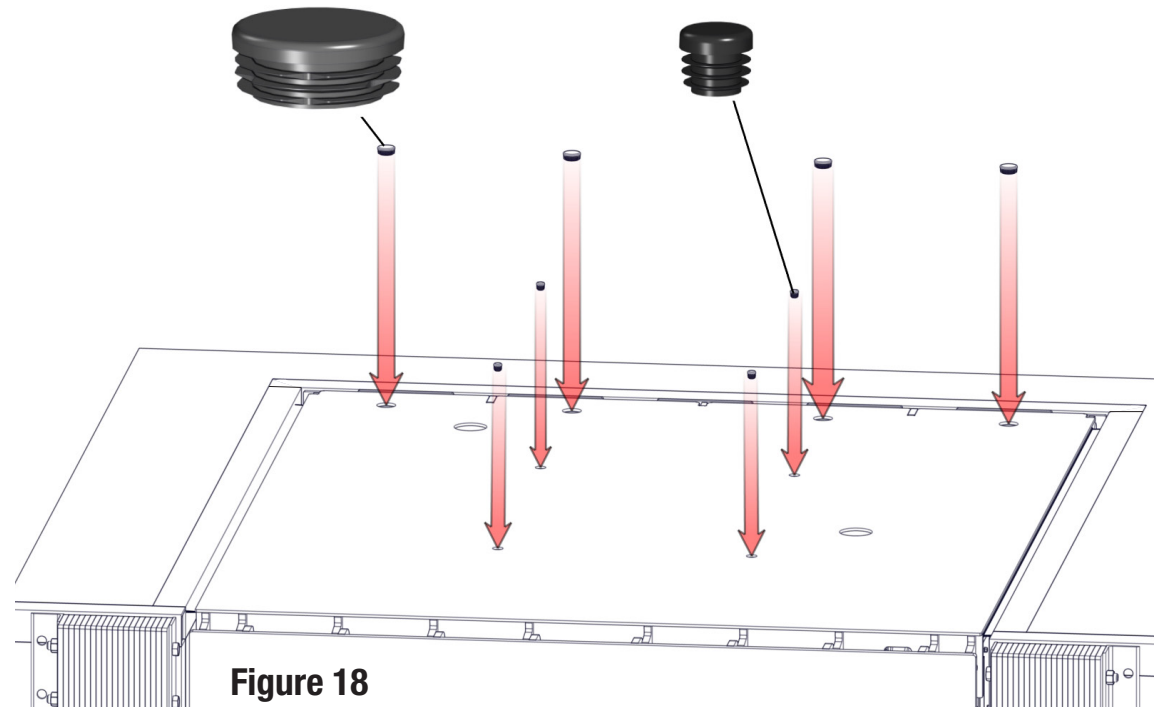

Figure 18
4. Locate the eight deck plugs in the hardware bag. Insert them in the four holes where the deck transportation loops were bolted and the four holes for accessing the rear leveling bolts, as shown in **Figure 18**.